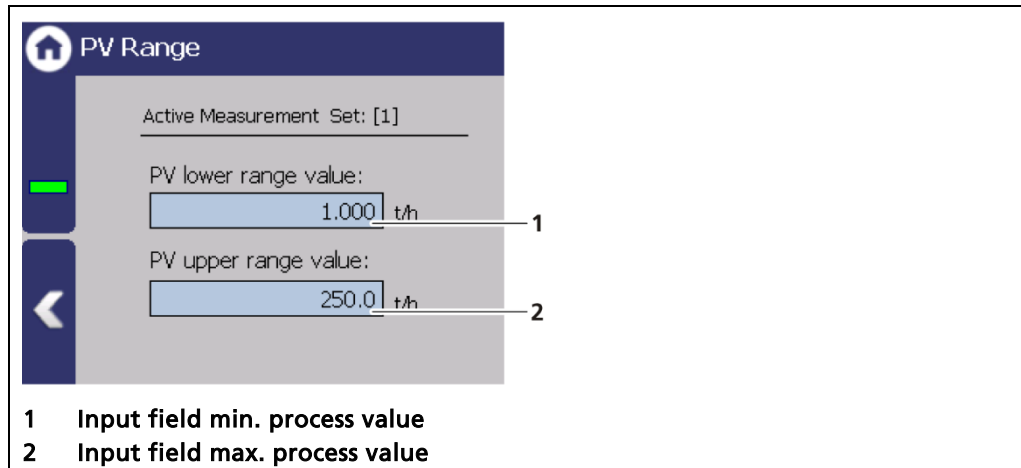

Fig. 105 Signal processing (PV range) Example: Meas.-Set:1; Unit: t/h
1. Click on the input box (Fig. 105, item 1) to enter the process value that is intended to correspond to an output current of 4mA.
3. Click on the input box (Fig. 105, item 2) to enter the process value that is intended to correspond to an output current of 20mA.